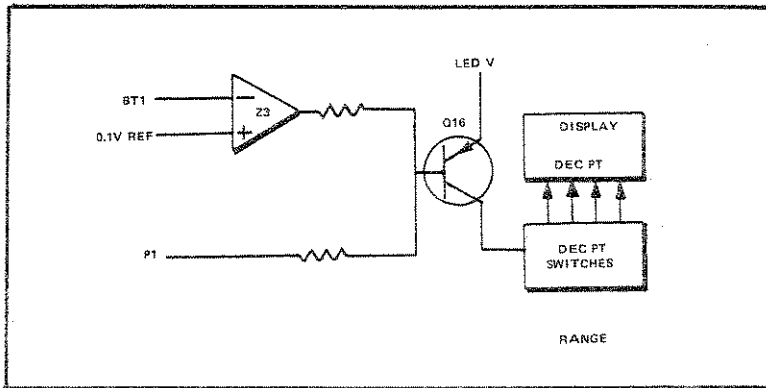

Fig. 4-11 Low Battery Sensing Schematic
- b. The display indicates a low battery (or low line voltage when no battery is installed) by blinking the decimal point. Figure 4-11 is a simplified schematic illustrating how this operation is performed. Amplifier Z3-1 is configured as a comparator for the battery voltage and the 0.1V REF. When the battery voltage is less than the reference value, its inverted output at Z3-1 enables Q16. Program control signal P1, which has a nominal frequency of 2.5 Hz, interrupts the LED supply voltage at that frequency.